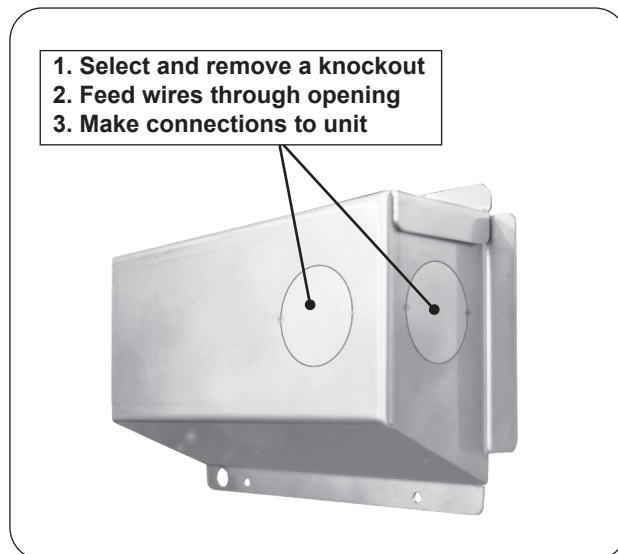

Fig. 23-1 Junction box knockouts
- Remove the junction box located on the rear of the unit. Select and remove a knockout from the junction box that will best suit your electrical setup. Route the wiring through the selected knockout opening. See Fig. 23-1.